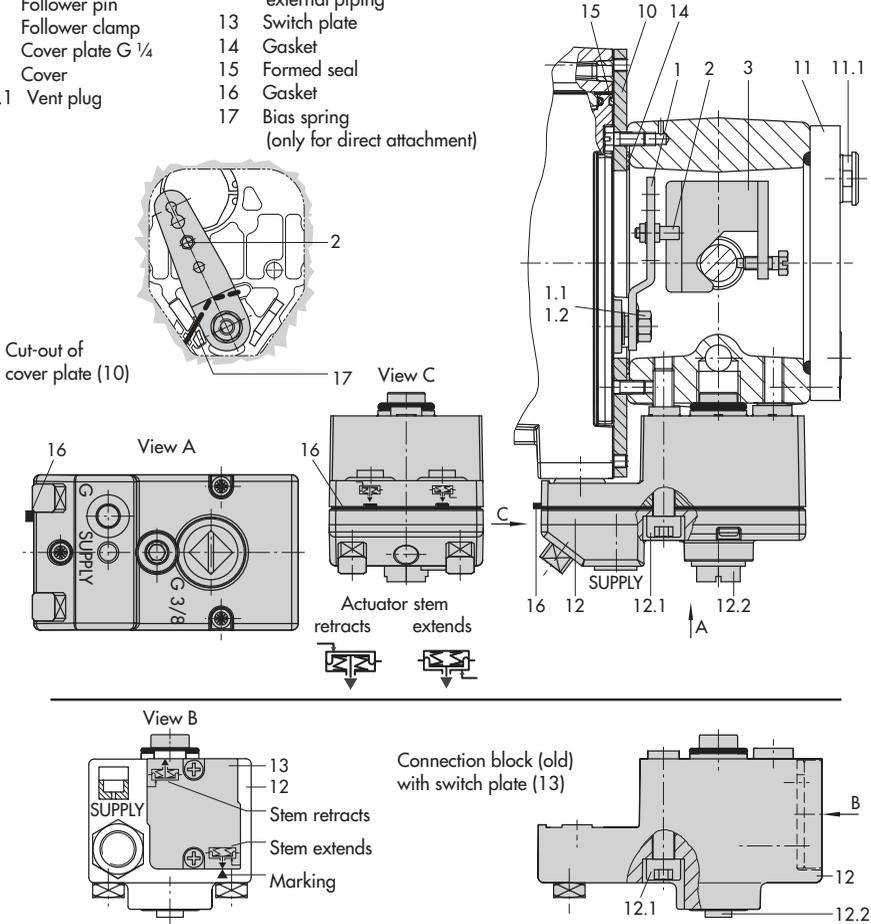

Fig. 5 · Direct attachment – Signal pressure connection for Type 3277 Actuator with 175 to 750 cm2
Mount the positioner onto the yoke as shown in Fig. 5. The signal pressure is routed to the actuator over the connection block (12), for actuators with fail-safe action "Actuator stem extends" internally through a bore in the valve yoke and for "Actuator stem retracts" through external piping.
1. Place follower clamp (3) on the actuator stem, align and screw it tight so that the mounting screw is located in the groove of the actuator stem.
2. Mount cover plate (10) with the narrow side of the cut-out (Fig. 5, left) pointing towards the signal pressure connection. Make sure that the bonded gasket (14) points towards the actuator yoke.
3. **Actuators with 355, 700 and 750 cm2:** Remove the follower pin (2) at lever **M** (1) on the back of the positioner from pin position **35**, reposition it in the hole for pin position **50** and screw tight.
**Actuators 175 and 350 cm2 with 15 mm travel:** The follower pin (2) remains in pin position **35** (delivered state).
4. Insert formed seal (15) into the groove of the positioner housing, pressing the four retaining rings over the housing screws and both fittings into the housing recesses.
5. Thread the bias spring (17) through the crosspiece underneath the lever (1) and
6. Make sure that the tip of the gasket (16) projecting from the side of the connection block (12) is positioned above the actuator symbol that corresponds with the actuator with fail-safe action "Actuator stem extends" or "Actuator stem retracts." If necessary, remove the three fixing screws and the cover plate. Then reposition the gasket (16) turned by 180°. The previous version of the connection block (Fig. 5, bottom) requires the switch plate (13) to be turned such that the corresponding actuator symbol points to the marking.
8. Place the connection block (12) with the associated seal rings against the positioner and the actuator yoke. Screw it tight using the fixing screw (12.1). For actuators with fail-safe action "Actuator stem retracts", additionally remove the stopper (12.2) and attach the external signal pressure line.